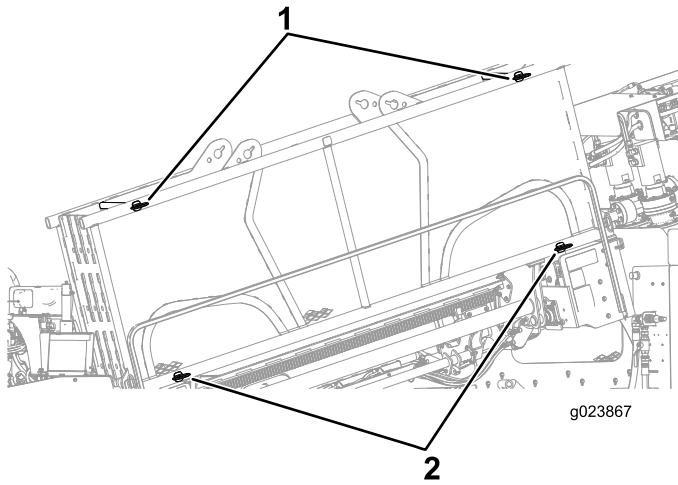

Figure 67
1. Ensure that the 2 upper pins and the 2 lower pins are installed to secure the pipe inside the pipe holder (Figure 67).